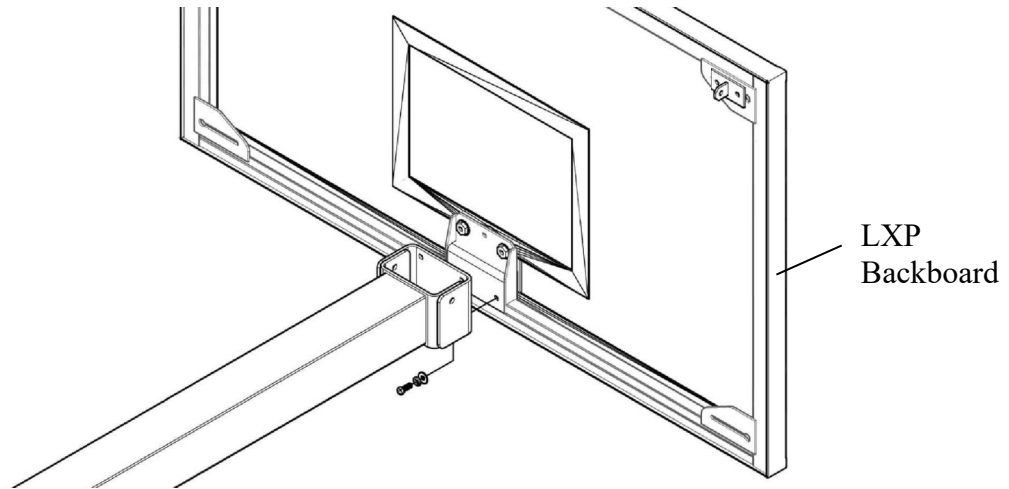

Figure 2
5. Position the backboard to the horizontal boom and install a 3/8-16 x 1" bolt with lock washer and flat washer in the lower two holes of the mounting plate and into the two tapped insert holes of the LXP backboard as shown in figure 2. Tighten these bolts securely.